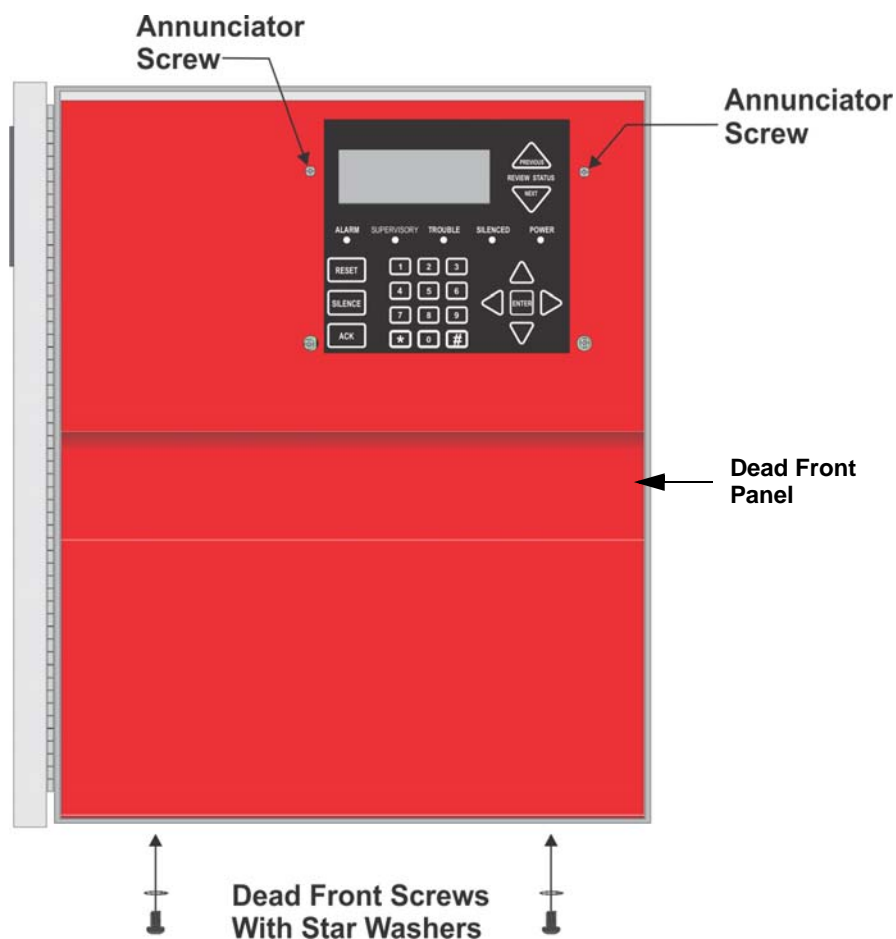

Figure 4-2 Dead Front Installation and Removal
1. Remove the top two annunciator screws, do not discard them they will be reused. See Figure 4-2 for annunciator screw location.
2. Set the dead front into the cabinet as shown in Figure 4-2.
4. Insert the two screws with the star washers into the bottom of the cabinet to secure the dead front into place. See Figure 4-2.
1. Remove the two annunciator screws, do not discard them. See Figure 4-2.
2. Remove the two screws and star washers from the bottom of the cabinet. See Figure 4-2.
4. Reinsert the two annunciator screws. See Figure 4-2.